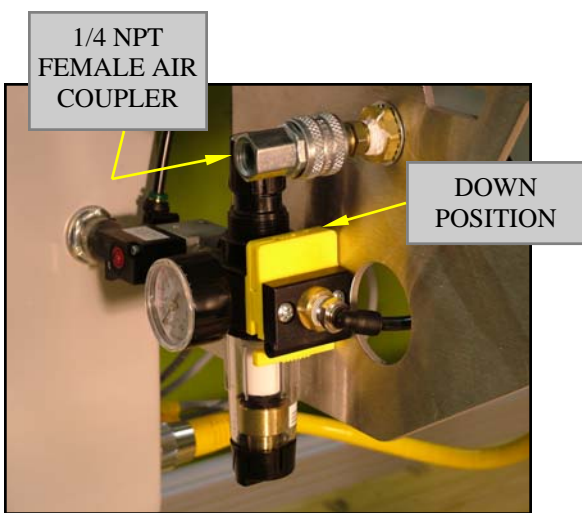

Figure 8
8. Compressed air connection will be made by a customer supplied 1/4" NPT male fitting into the quick disconnect air coupler. (Figure 8)